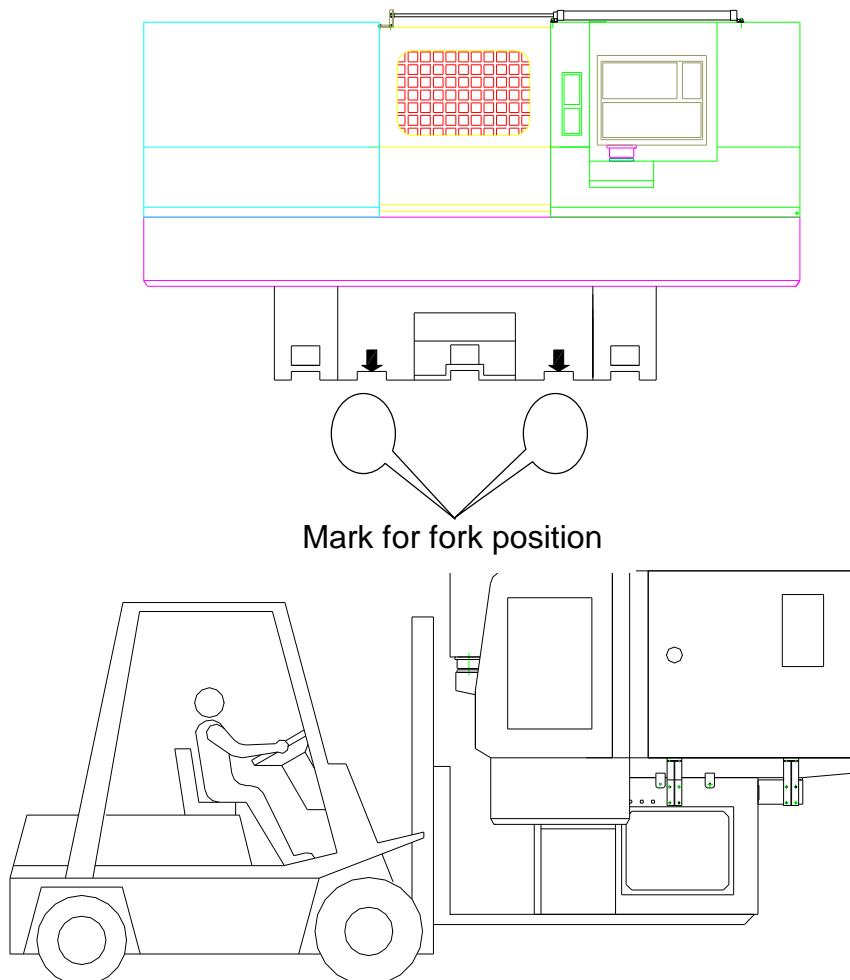

Fig. 2.3
Carriage by forklift (as shown in Fig 2-3)
2. Place fork between base plate and machine button, and in the mark position. (Fig 2-3).